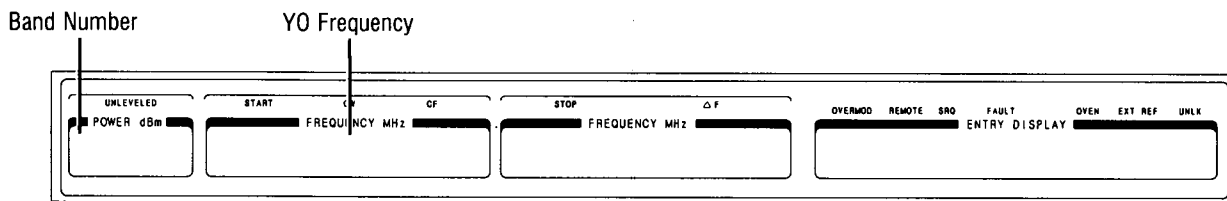

Figure A-6. YO Diagnostics
This diagnostic shows, from left to right, what the band number and the YIG oscillator (YO) frequency should be (see Figure A-6).